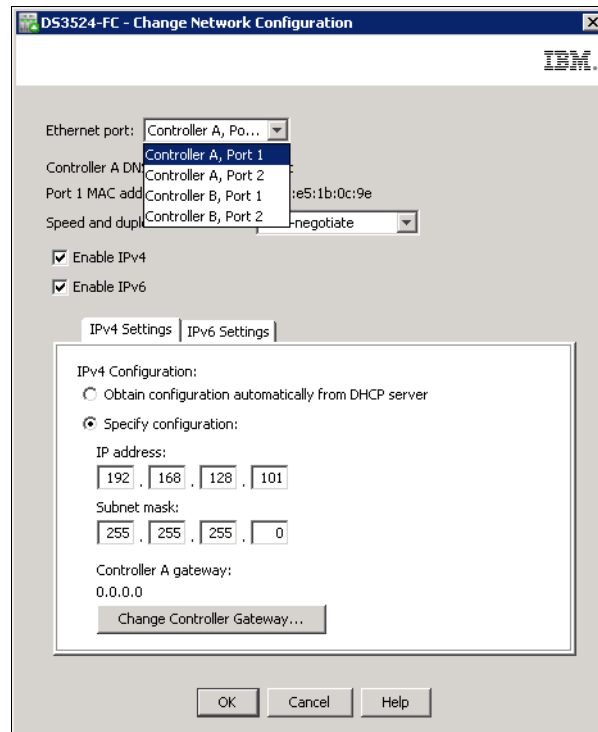

Figure 10-18 Change Ethernet settings
1. Select one controller in Physical pane, right-click it, and select **Configure** → **Ethernet Management Ports**. A new window like in Figure 10-18 on page 273 appears. In this window you can set IP addresses, IP masks, default Gateway and the link speed of Ethernet port, for all four Ethernet ports on both controllers.